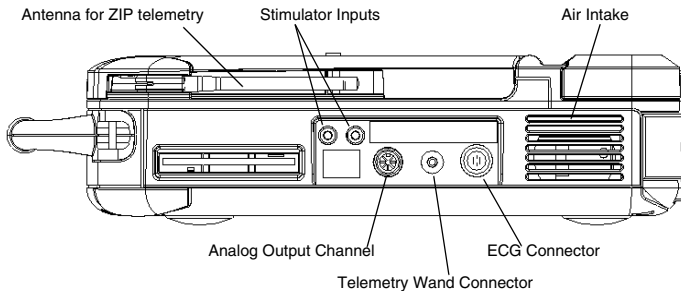

Figure 1. Right side panel of the PRM.
2. Plug the telemetry wand into the connector on the right side panel of the PRM (Figure 1).
1. Connect the Model 6750 Surface ECG Patient Cable to the ECG connector on the right side of the PRM (Figure 1). This patient connection is electrically isolated. Attach the surface electrodes to the patient in a standard three-wire or five-wire configuration.
2. Connect the Model 6924 External Recorder Cable to the analog output channel on the right side of the PRM (Figure 1). Connect the other end to the multichannel recorder or external strip chart recorder. The Model 3120 PRM has high-level analog outputs.
3. Connect the Model 6892 Controller-Stimulator Cable to the pacing stimulation source connector marked "Stimulator Input" on the right side of the PRM (Figure 1) and then into the corresponding terminal on the electrical stimulation source.